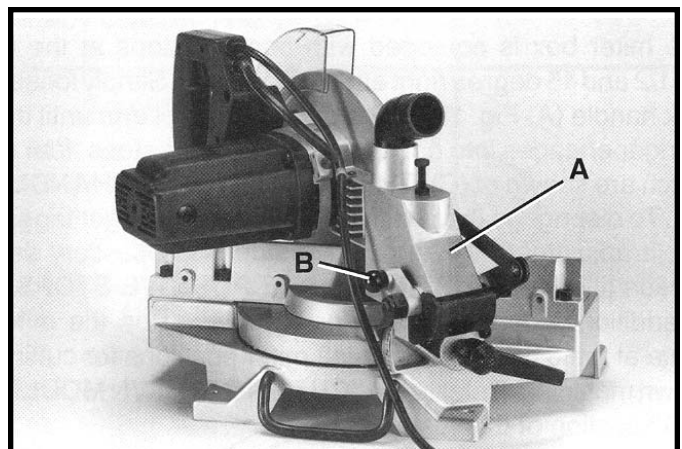

Fig. 18
When transporting the saw the cuttinghead should always be locked in the down position. This can be accomplished by lowering the cutting arm (A) Fig. 18, and pushing in plunger (B) until other end of plunger (B) engages with hole in cutting arm. **IMPORTANT: NEVER CARRY THE COMPOUND MITER BOX BY THE SWITCH HANDLE. THIS MAY CAUSE MISALIGNMENT. ALWAYS LIFT THE MACHINE BY THE BASE.**